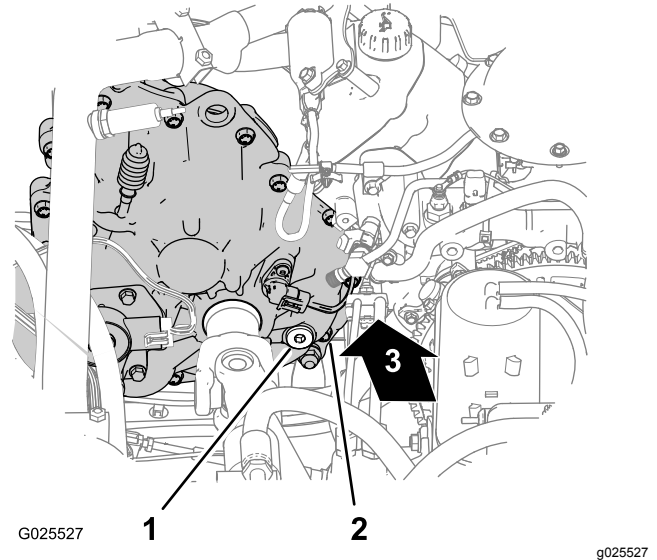
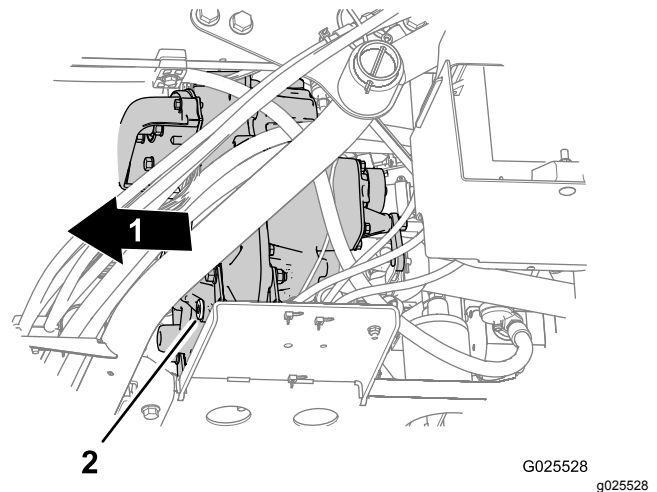

Figure 58
Figure 59
2. Locate the fill plug at the back inboard area of the transmission case and locate the drain plug at the front outboard side of the transmission (Figure 58 and Figure 59).
3. Remove the fill plug from the fill port by rotating the plug counterclockwise and removing it from the transmission (Figure 58).
4. Align a drain pan below the drain plug (Figure 59).
- Remove the drain plug from the drain port by rotating the plug counterclockwise and removing it from the transmission (Figure 59).
- Install the drain plug (Figure 59).
- Add 700 ml (23.7 fl oz) of Dexron VI transmission fluid into the transmission through the fill port (Figure 58).
- Install the fill plug (Figure 58).